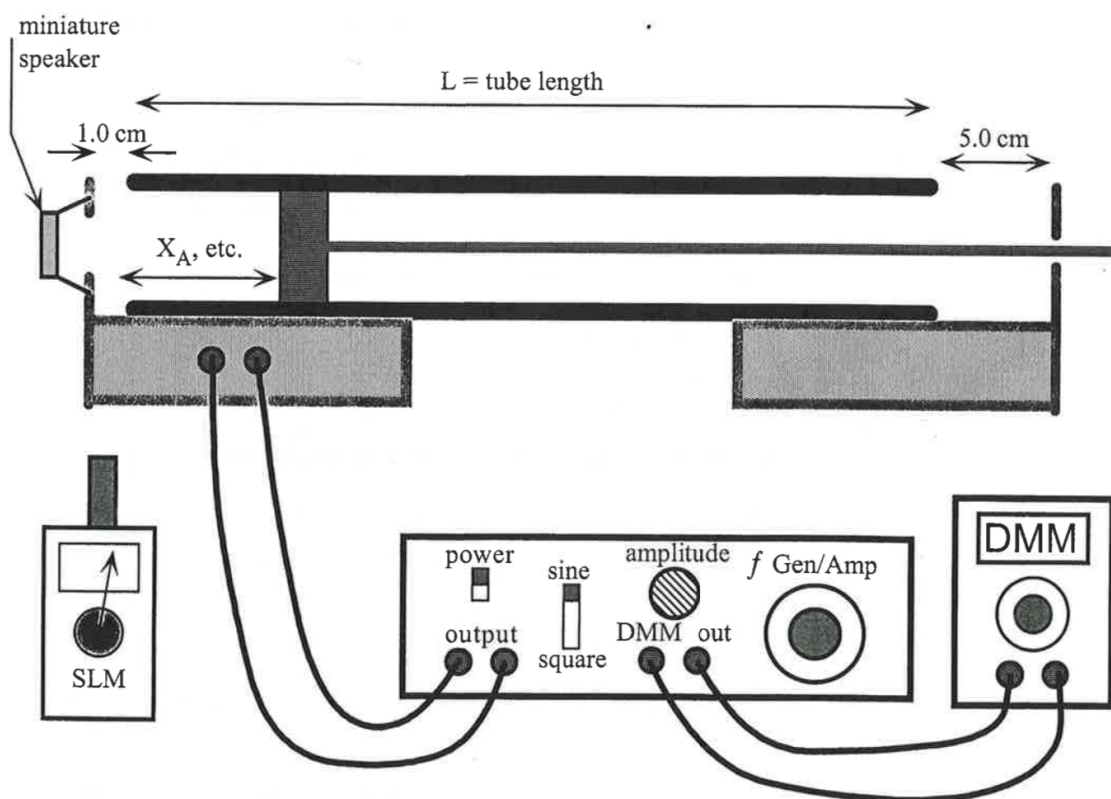

Figure 5: Setup for closed tube resonance.
1. Re-configure the resonance tube apparatus by inserting the plunger, and adjust the plunger position until it is about 5.0 cm or so from the open (speaker) end of the tube. (See Figure 5.)